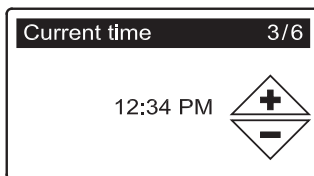

FIG. 10
- 5. CURRENT TIME** Press the DOWN (▼) or UP (▲) buttons to set the current time (See Figure 10). Hold the button down to rapidly advance. Be sure that AM or PM is correct. If the system units were set to metric in Step 3, the clock will be in 24-hour format.